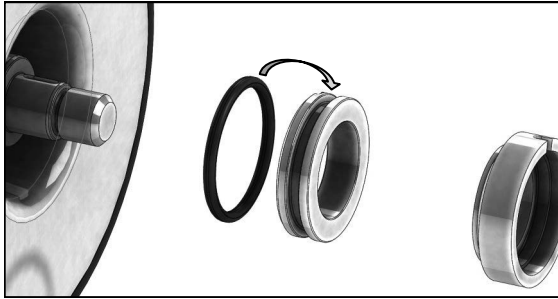
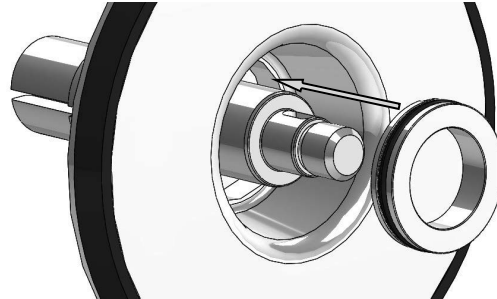

Figure 1
Figure 2
1. Lubricate the o-ring with sanitary compatible lubricant, and stretch (do not roll) it onto the groove in the stationary seal [Figure 1]. Insert the completed stationary seal assembly into the back plate with the notch facing down and inserted first [Figure 2]